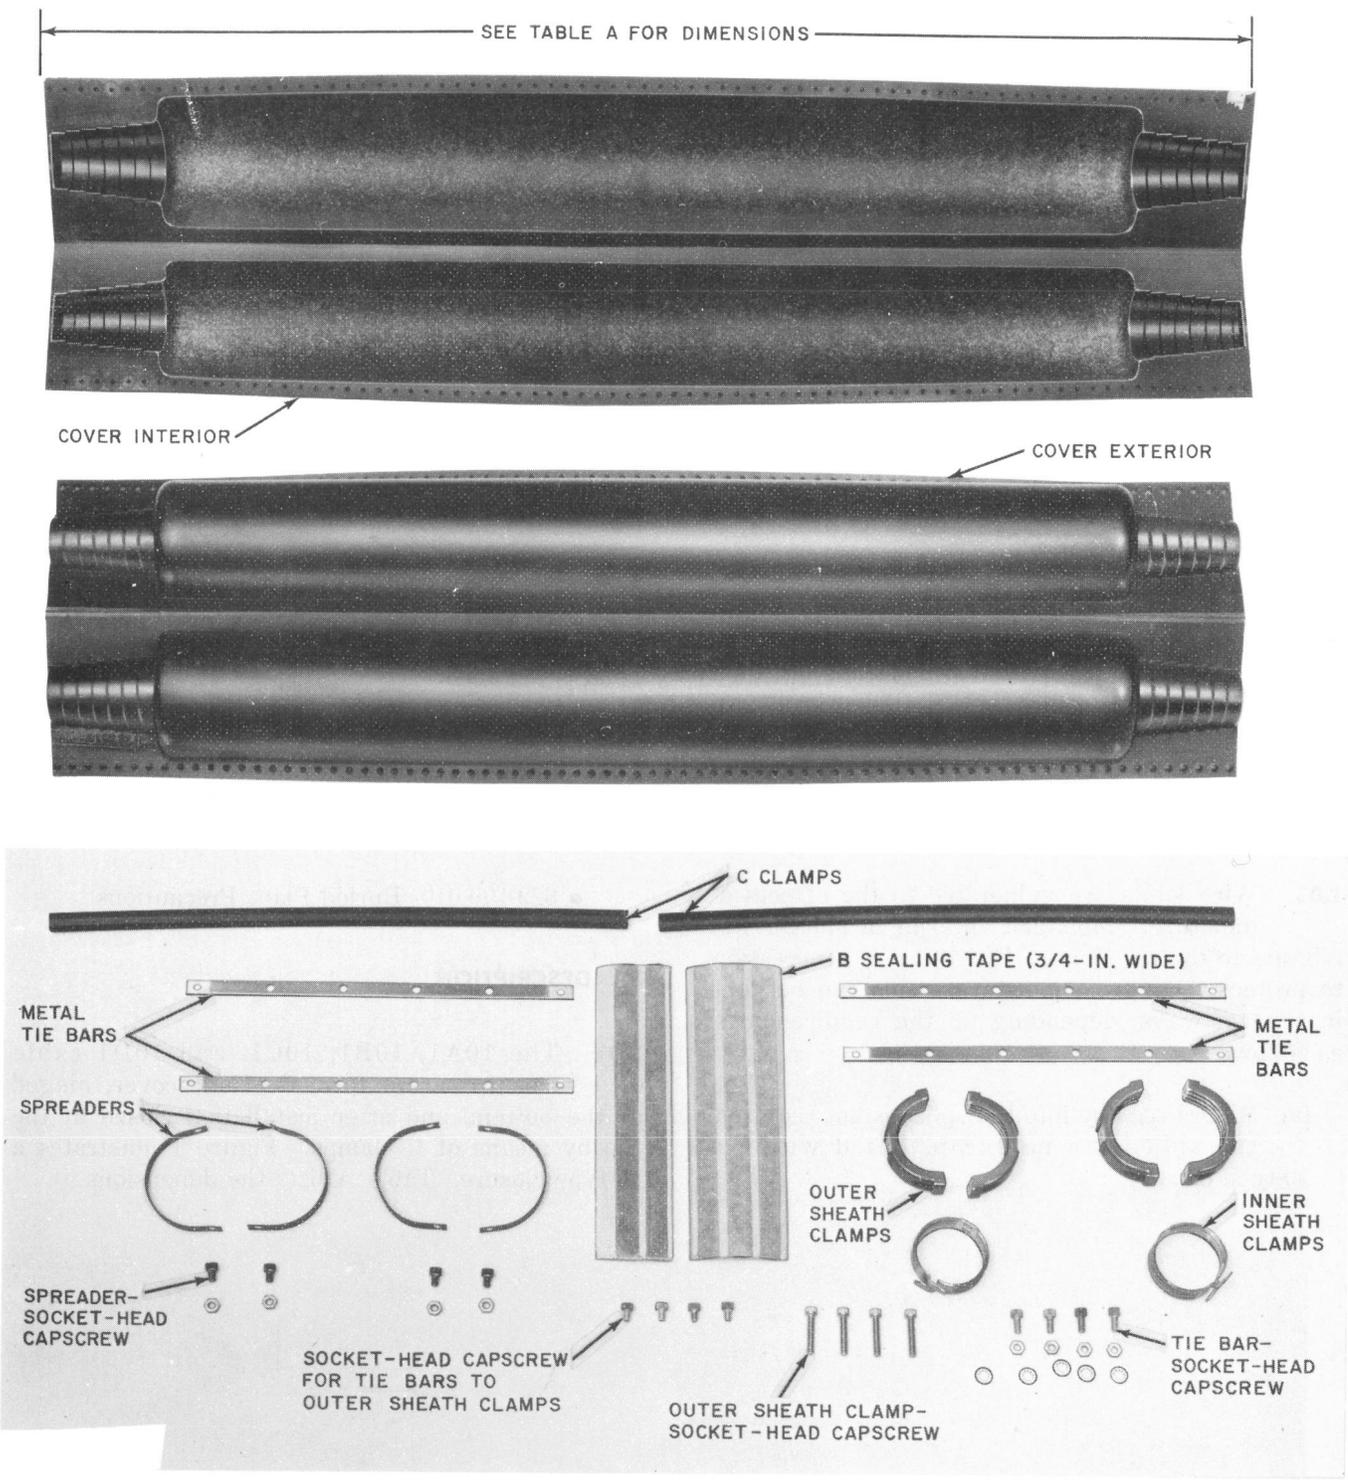

Fig. 1—10-Type Closure
3.01 The 10A1, 10B1, 10C1, and 10D1 cable closures are a formed plastic cover, hinged at the bottom, and after installation closed at the top by means of C clamps. Figure 1 illustrates a 10-type closure. Table A lists the dimensions.